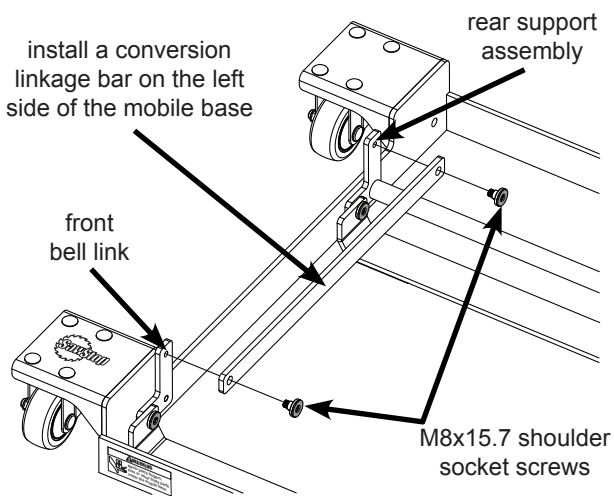
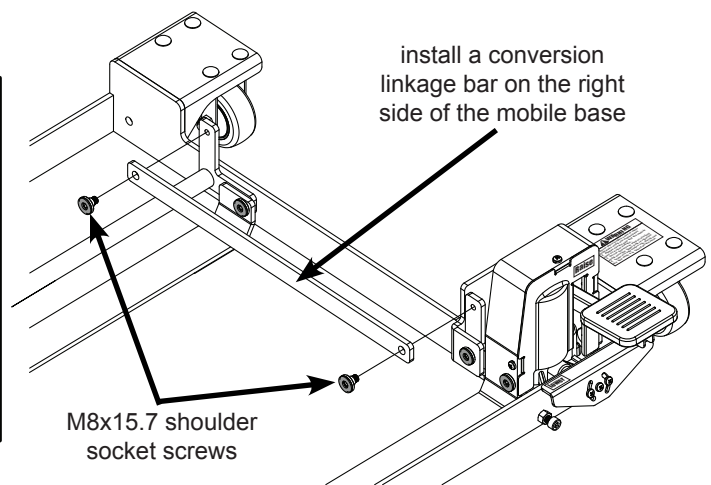

Fig. 5a
Fig. 5b
- Locate the two conversion linkage bars and the remaining four M8 x 15.7 shoulder socket screws. Use two of the M8 x 15.7 shoulder screws to install one of the conversion linkage bars on the left side of the mobile base (see Fig. 5a). The screws pass through the clearance holes in the conversion linkage bar and thread into the corresponding holes in the rear support assembly and the front bell link. Use the remaining two M8 x 15.7 shoulder socket screws to install the other conversion linkage bar on the right side of the mobile base (see Fig. 5b). Fully tighten all four screws using a 5 mm hex key.